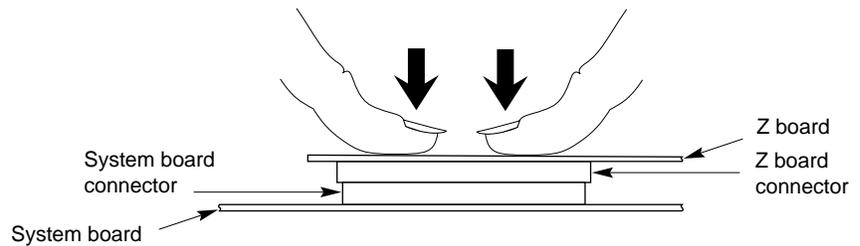

Figure 2-19 Seating the Z Board's Connectors
2. Press to seat the Z board's connectors into the system board's connectors, as shown in Figure 2-19.